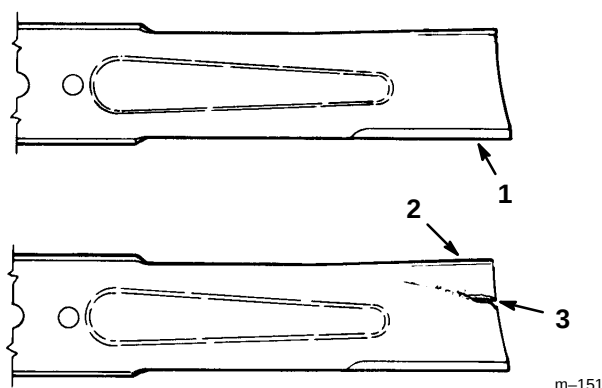

Figure 32
- Inspect the cutting edges (Fig. 32). If the edges are not sharp or have nicks, remove the blade(s) and sharpen them; refer to Sharpening the Blade(s), page 32.
- Inspect the blade(s), especially the curved area (Fig. 32). If you notice any damage, wear, or a slot forming in this area (Fig. 32), immediately install a new blade.